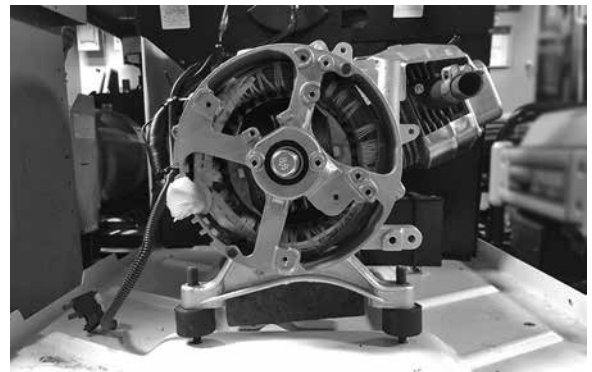

Figure 124.
b. Remove the bearing carrier vibration isolator nuts. Refer to Figure 124.